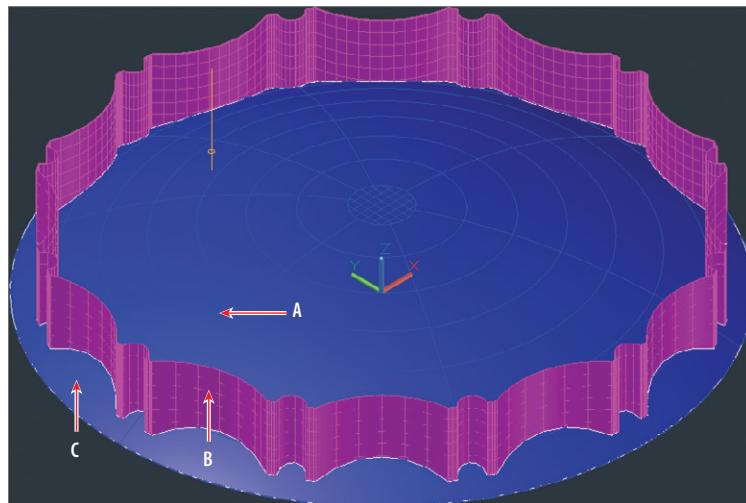

FIGURE 17.8 An extruded surface (in magenta) poking through the dome membrane (in blue)
3. Hover the cursor over the Layer Properties Manager's title bar to reveal the palette. Toggle on the Dome Membrane layer. Double-click the Dome Membrane layer's icon to set it as current. Figure 17.8 shows the result.
Click point A in Figure 17.8, and press Enter.
Click point B in Figure 17.8, and press Enter.
Click point C in Figure 17.8, and press Enter. The `SURFTRIM` command ends.